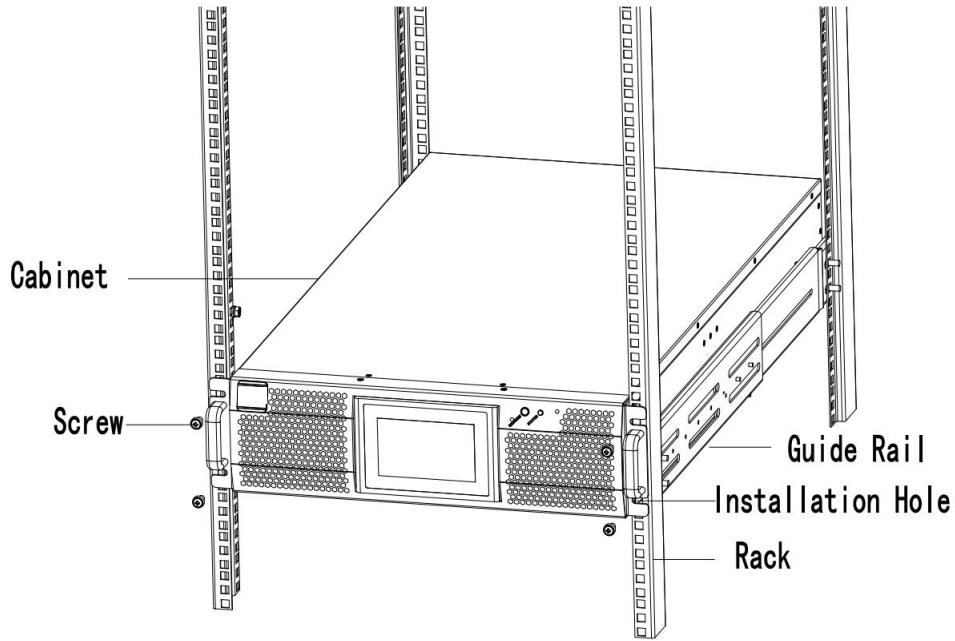

Fig.3-3 Rack Mounted Installation
- 2) Put the UPS and battery cabinet on the guide rail, fix the units to the service rack, shown as Fig.3-3.